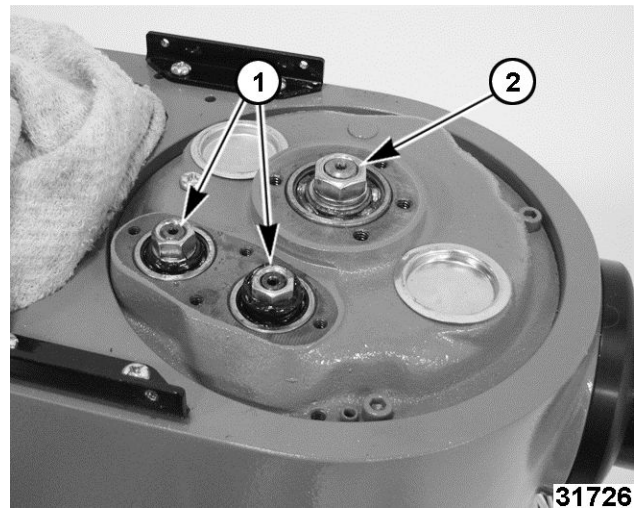

Fig. 38
18. Replace planetary shaft washer and top nut (2, Fig. 38).
19. Replace transmission shaft lock washers and nuts (1, Fig. 38).